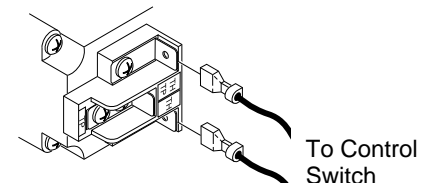

Figure 22 - Control Valve Terminals
- Connect one wire terminal from ON/OFF switch to the THTP terminal on the valve. Connect remaining wire terminal to the TH terminal on the valve. Make sure that the wire terminals are in the positions on the unit as pictured in Figure 22. If wires are not connected as shown, the ON/OFF switch will not work.